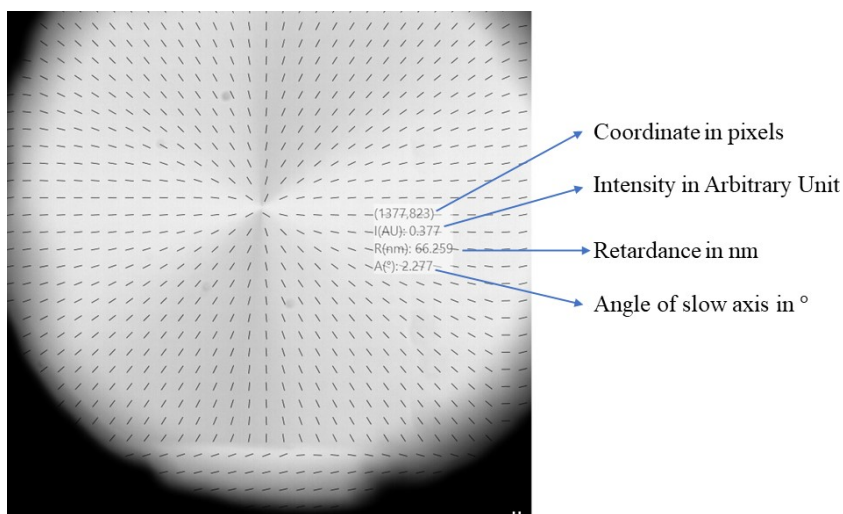

Fig. 6 Coordinate in pixels, intensity, retardance, and angle of the slow axis at the position of the mouse cursor
8. In the **Data** tab, choose the image → place the cursor on the image to see **Intensity** in the arbitrary units (UA), **Retardance (R)** in nm's, **Angle (A)** in degrees ($^{\circ}$) for a given coordinate displayed in terms of pixels as shown in Fig. 6. Recall, angles are measured counterclockwise due to **step 4**.